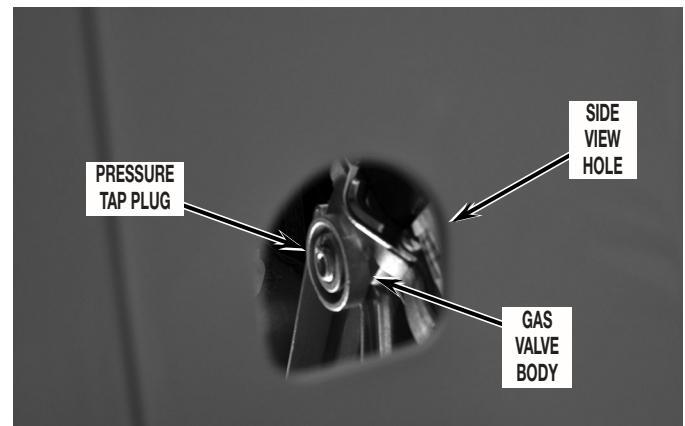

FIGURE 1
6. View through the hole on the right side panel inspecting for leaks indicated by growing bubbles. See Figure 1.